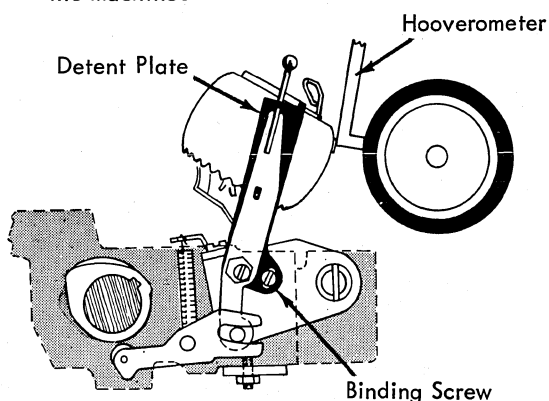

FIGURE 97.3 Powered Travel (Late)
- a. Powered Travel - With the cycle shaft latched at rest and the impression control lever set at position 5 and the copy control lever set at 5 (all the way back), loosen the binding screw and move the detent plate forward or backward until a clearance of .250" exists between the platen and the center of the "home" character (Fig. 97.3). This clearance may be measured with the foot of the Hooverrometer which is approximately .250". When measuring the adjustment, remove the tilt ring play by depressing the typehead lightly toward the front of the machine.